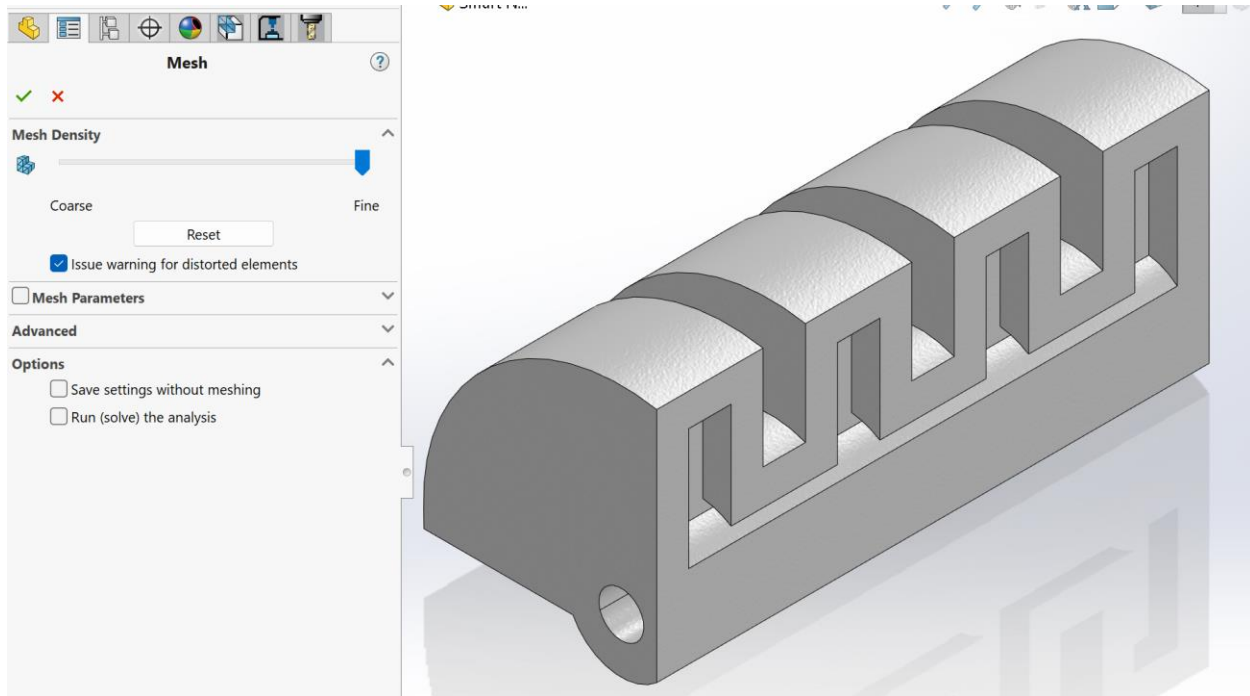

Figure 13: Mesh Menu
- A. One of the last steps we need to take to set up the simulation is creating a mesh. The mesh is where the analysis equations are carried thus the clarity of the mesh will have direct correlation on the accuracy of the results. For research purposes, the finest mesh possible will have the best results in correlation to physical testing. To create the mesh of the model, right click on “Mesh” and click on “Create Mesh...”. Once the mesh window has been opened, drag the slider all the way to the right to the fine side to create the finest mesh SolidWorks will allow (Figure 13). Click the green check mark and the mesh will be set up.